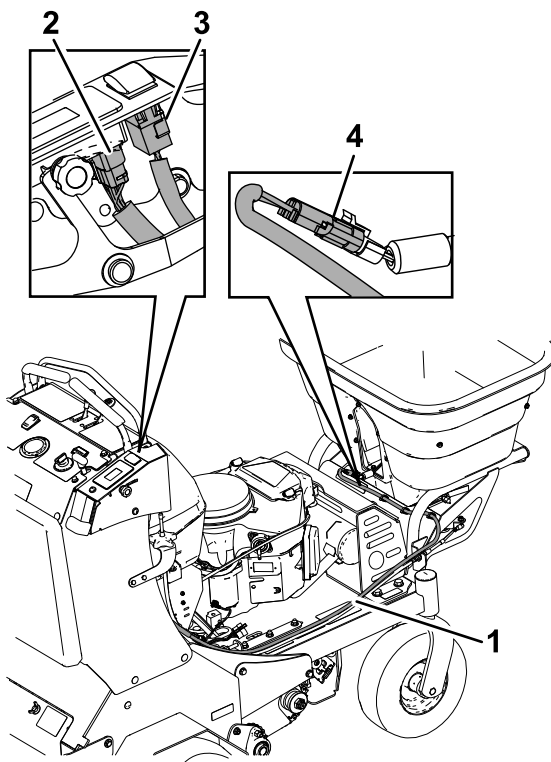

Figure 8
2. Plug the hour meter and ON/OFF connectors on the spreader harness into the switches on flow control panel (Figure 8).
bracket and hopper tube. Connect the spreader harness to the spreader motor as shown in Figure 8. Insert the 3 harness tie clips into the holes of the hopper mainframe to secure the harness.